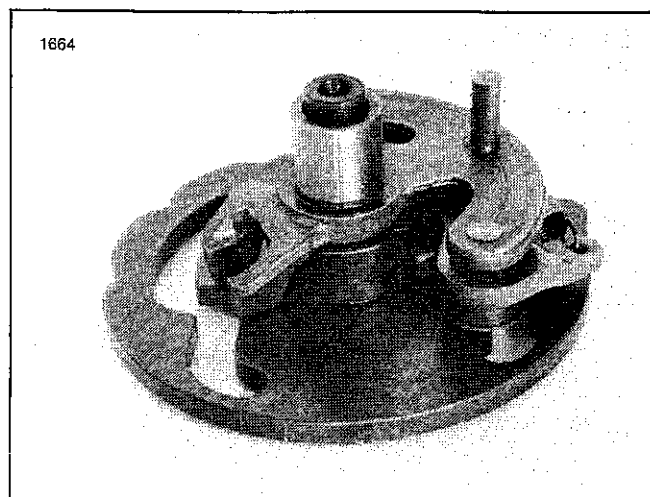

Figure 5. Shifter Cam and Pawl Assembly
3. See Figure 5. Install the pawl assembly on the shifter cam. Make sure pawls engage on shifter cam gear teeth.